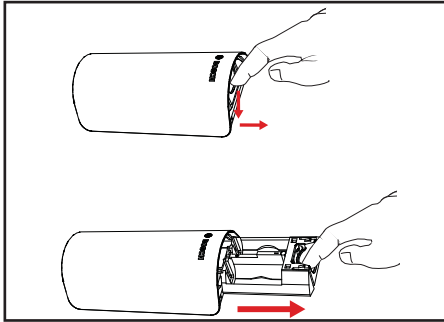

Figure 9.1: Removing the battery tray
3. Press down while sliding the tray completely out of the motion detector body. Refer to Figure 9.1.